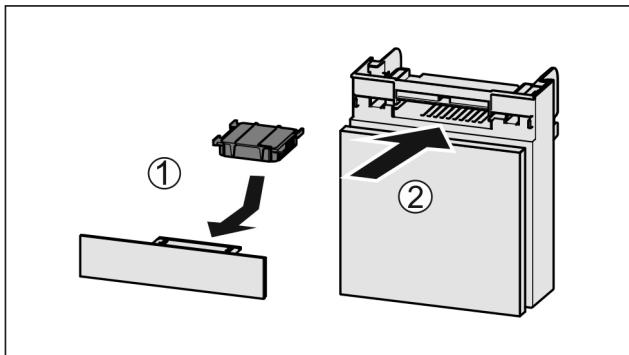

Fig. 147
- ▶ Insert the carbon filter as shown in the diagram Fig. 147 (1).
- ▶ Push the compartment in Fig. 147 (2).